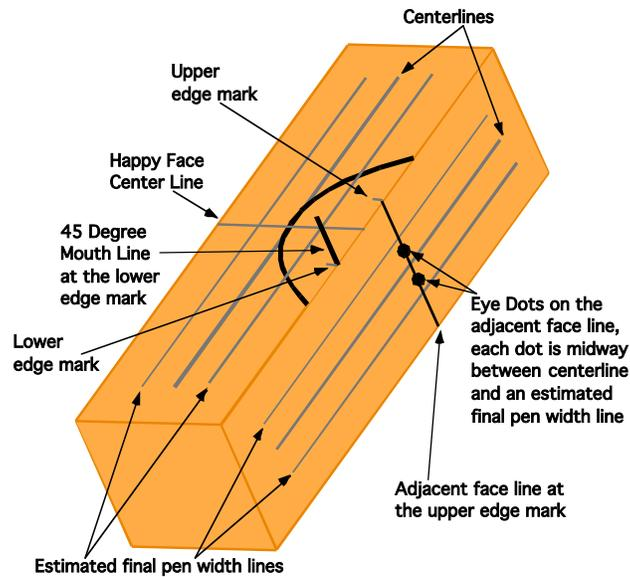

Figure 6 – Eye Dots on Adjacent side.
8. On the adjacent face, put two dots on the line just drawn with one dot to the LEFT of the CENTERLINE and one dot to the RIGHT of the CENTERLINE. Position each dot to be midway between the CENTERLINE and the final pen dimension line. These dots will be the location of the eyes. Figure 6 shows the position of the eye dots.